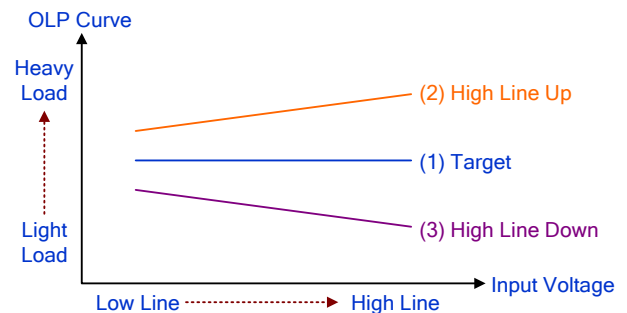

Figure 2. Curve Chart of OLP
In the beginning of propagation delay time compensation function setting, designers could set R_{PD}C = 470Ω, and C_{RC} = 100pF. In Figure 2, the ideal output current should be the same as curve (1). No matter under high line or low line, the output current keeps the same. However, the propagation delay time varies OLP curve under different input voltages according to different designs of transformer inductance, parasitic capacitance of MOSFET, series resistance on the GATE of MOSFET. If the OLP curve is like curve (2), designers should increase the resistance of R_{PD}C; if the OLP curve is like curve (3), designers should increase the capacitance of C_{RC}. Designers optimize the OLP curve through propagation delay time compensation to keep the same output current under different input voltages.